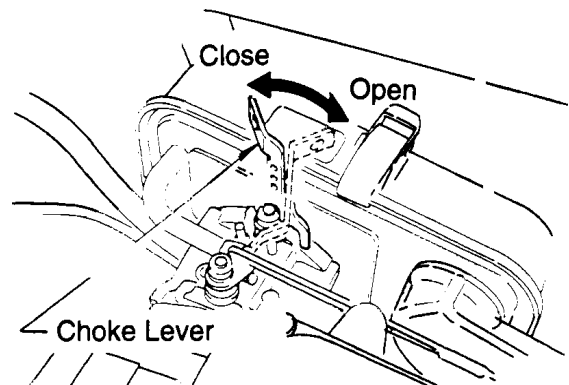

Figure 9. Choke Lever
3. Close the choke lever (Figure 9) and move the throttle lever to the "Full Open" position. Turning the choke lever 90 degrees clockwise closes the choke. In cold weather, start the unit with choke fully closed. In warm weather or when the engine is warm, the unit can be started with choke halfway or completely open.
4. If engine fails to start, move the choke lever (Figure 9) to the half open position to avoid flooding.